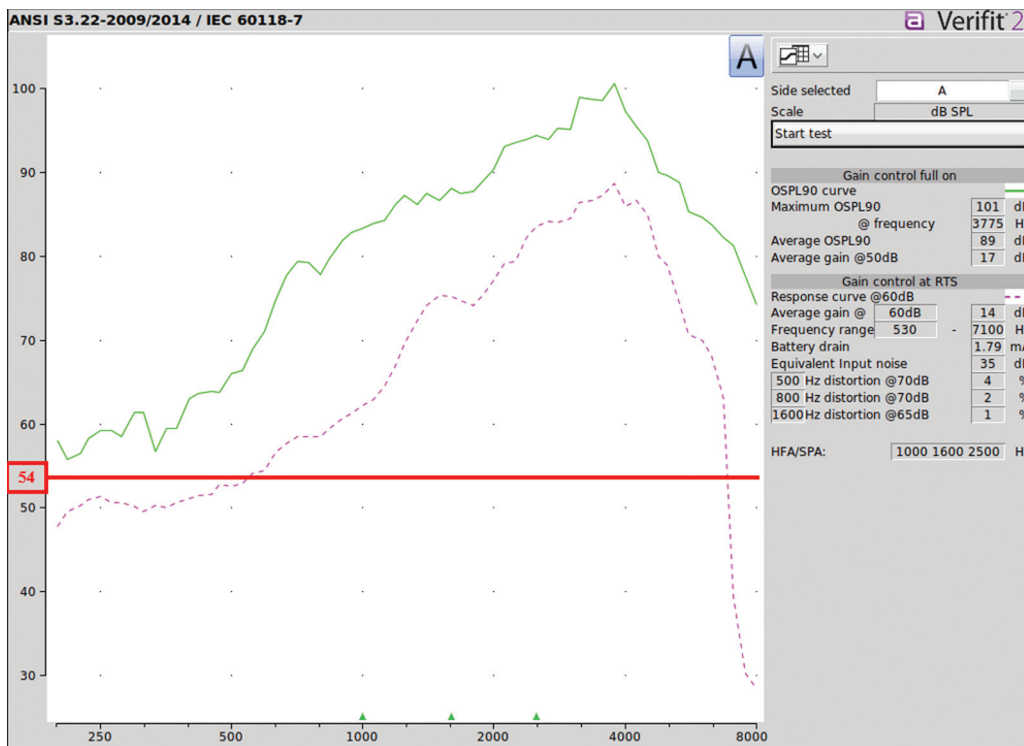

Figure 4 Draw a horizontal line at HFA-20. In this case, we draw a line at 54 dB SPL because the HFA is 74 dB SPL.
4. Draw a horizontal line parallel to the frequency axis at the HFA-20 level (see Figure 4).